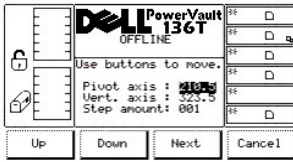

Figure 103. Service > Library > Diags > Picker > Step > Axes Dialog
- 1 If the button beneath the **OK** softkey is pressed, Figure 103 appears. This is an advanced diagnostic tool that is not intended for use